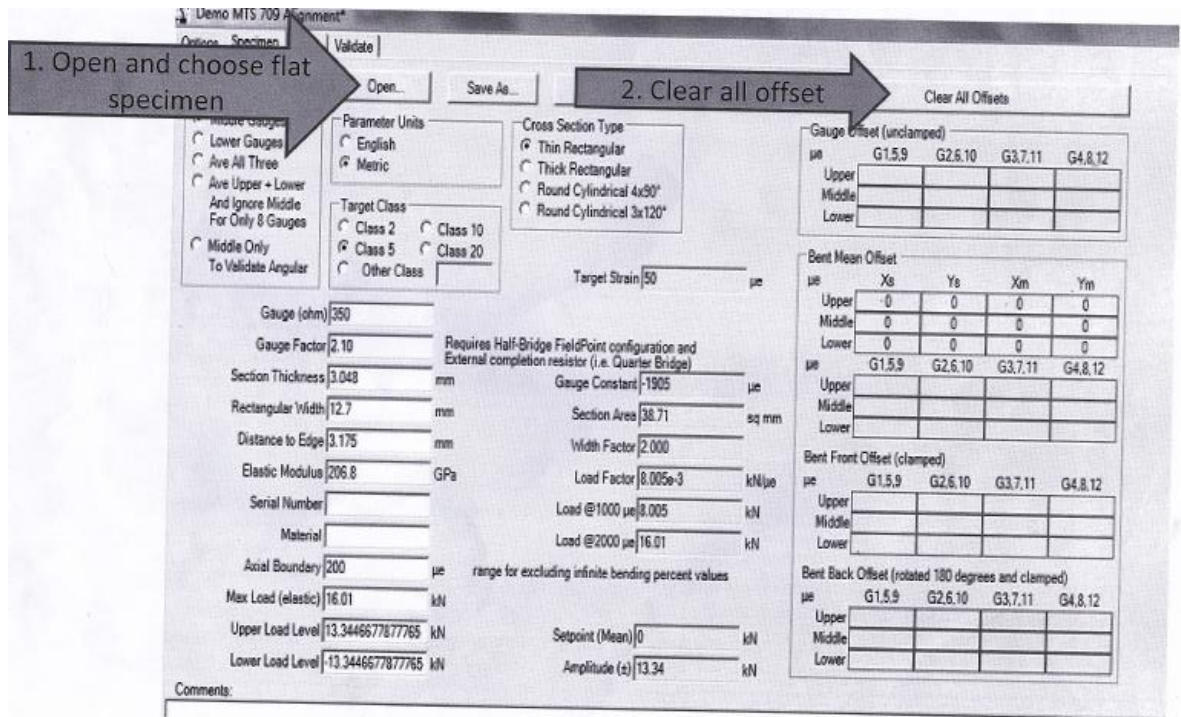

Figure 2: Align Tab Setting
- d) In the Align tab, click Open... and choose flat specimen. Then, click the Clear All Offsets button as shown in Figure 2.